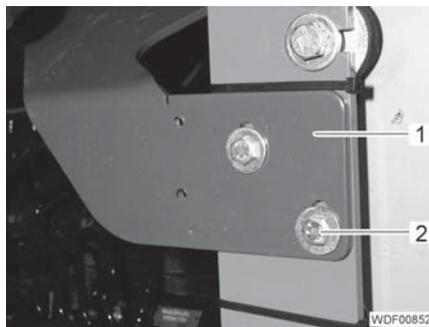

Fig. 49 Holder attachment
- Position and adjust the holder (Fig. 49,1) and screw in and tighten the 2 screws (Fig. 49,2).